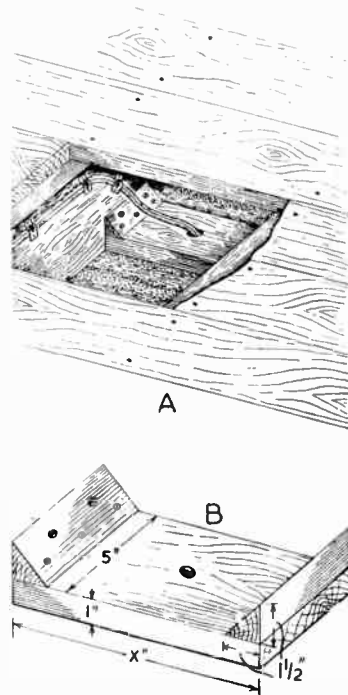

Fig. 2 Support block for heavy fittings
A good method of support into which the ceiling block can be screwed, is indicated in the accompanying illustrations at Fig. 2. In view (A) the wires are indicated passing through the support midway between the joists, and it will be seen the solid wooden block provides a means of screwing up the ceiling block in the room below which is to hold the heavy pendant.